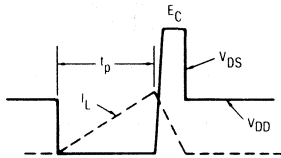

Fig. 15 — Clamped Inductive Waveforms
- Repetitive Rating: Pulse width limited by max. junction temperature. See Transient Thermal Impedance Curve (Figure 15).
- $V_{DD} = 40\text{V}$, starting $T_J = +25^\circ\text{C}$, $L = 44.89\text{mH}$, $R_{GS} = 50\Omega$, $I_{PEAK} = 1.4\text{A}$. See Figure 15.
- $V_{DD} = 40V$, starting $T_J = +25^\circ\text{C}$, $L = 44.89\text{mH}$, $R_{GS} = 50\Omega$, $I_{PEAK} = 1.4A$. (See Figure 15.)